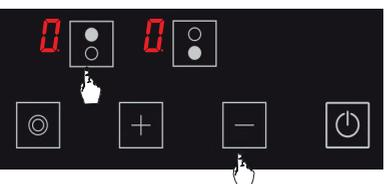

Figure 18
2. Press upper hob selection key (⏏) and minus key (⏏) simultaneously. (see Fig. 18) You shall hear a short warning signal at this time. Then, remove your fingers from the stove control panel.